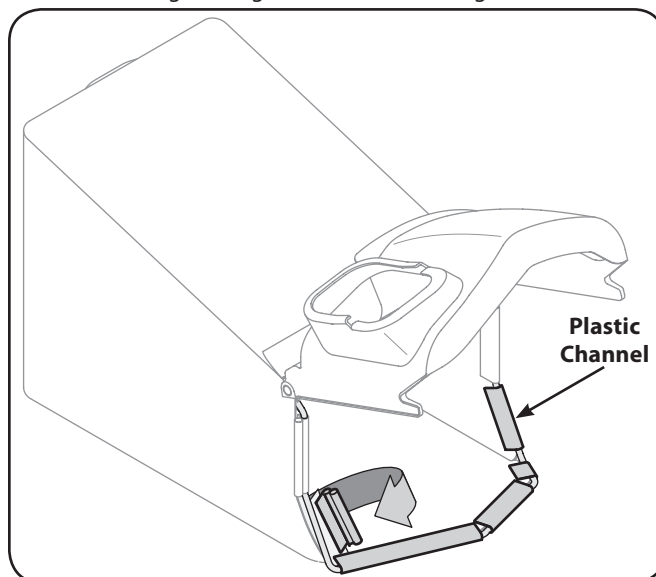

Figure 3-5
3. Slip the five remaining plastic channels of grass bag over the metal grass bag frame as shown in Figure 3-5.